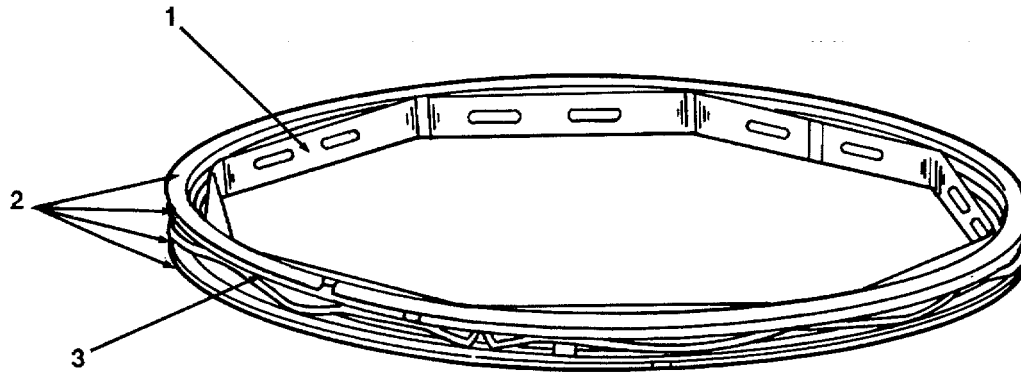

Figure 5-23. Scraper Ring.
- (11) Install spring loaded scraper ring. When fitting the chrome plated spring loaded scraper ring (see Figure 5-23), the following should be adopted:
- (a) Install internal expander (1, Figure 5-23).